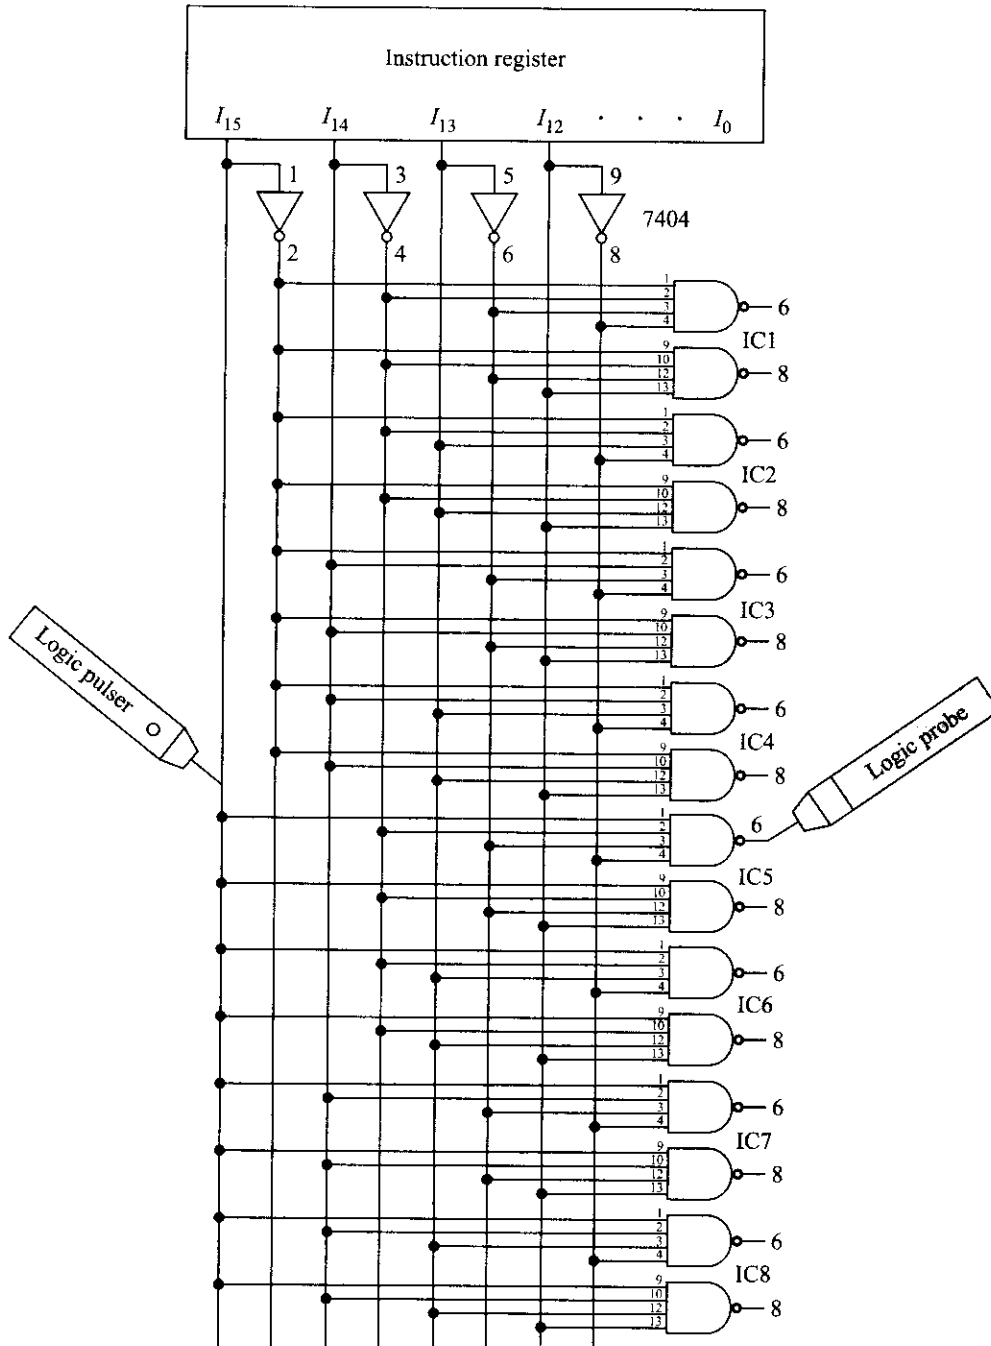

Fig. 5.10
- 5.34 The instruction register shown in Fig. 5.10 on the next page is a logic circuit that stores a 16-bit number, $I_{15} \dots I_0$. The first 4 bits, $I_{15} \dots I_{12}$, are decoded by a 4 to 16-line decoder. Determine whether the logic probe indicates low, high, or blink for each of these conditions:
- 5.35 The logic pulser and logic probe shown in Fig. 5.10 are used to check the pins of the 7404 for stuck states. Suppose pin 8 is stuck in the high state. Indicate which of the following are possible sources of trouble: